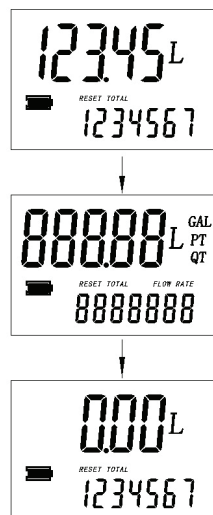

Fig. 4
- **Reset the present total (See Fig. 4)**